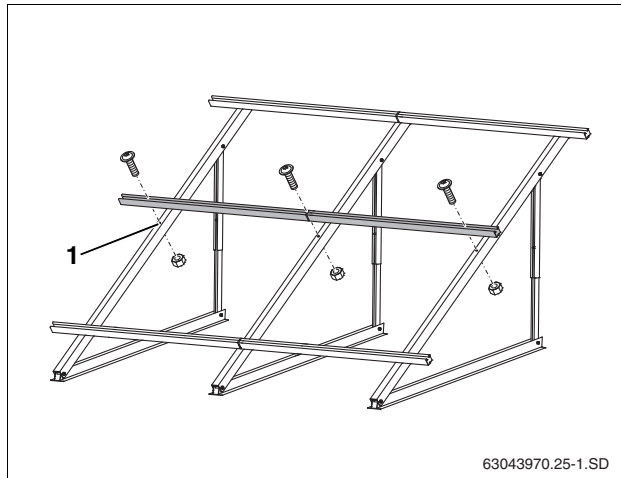

Fig. 35 Installing additional profile rails
- ▶ Fasten additional profile rails as described in Section 5.5.2 "Installing profile rails", using the middle hole on the triangle (Fig. 35, [1]).